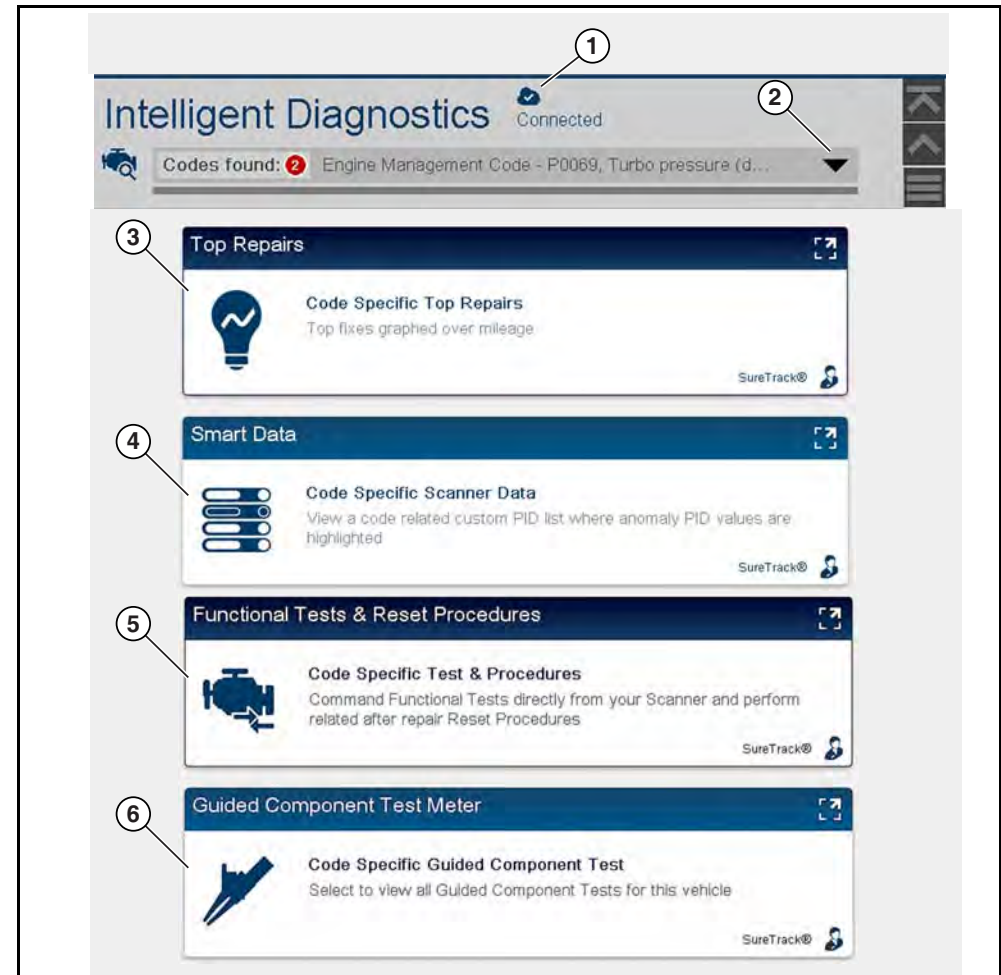

Figure 7-2 Multi-card menu
The following descriptions are used with Figure 7-2.
1. **Wi-Fi Connection Status Indicator** - A Wi-Fi connection indicator (cloud icon) is provided on the top of the screen (Figure 7-2). This icon is also used to indicate service expiration, the icon changes color to red, and displays the word "Expired" in the event your access has expired.